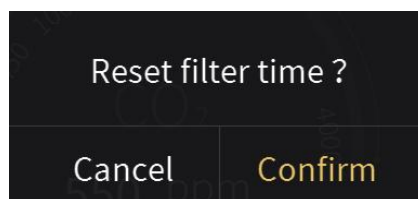

Fig.2.6.5
The service life of the filter set by the parameter configuration. When the filter time reaches to the parameter setting value, the alarm state can be issued through the bus, and the remaining filter timer value can be displayed to be 0%. When touch icon⑧, the filter time can be reset, as shown in Fig.2.6.5 below. After clicking “Confirm”, the filter timer value can be reset to 100%.